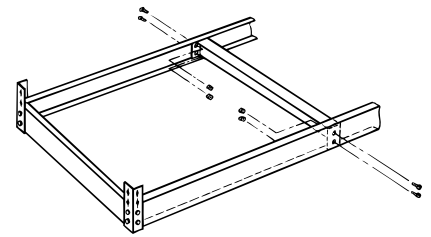

FIGURE 4
Support ties are used with the bottom and top level left-to-right double rivet angle and channel beams. They are installed from front-to-back as shown in *Figure 4*. Beams under 96" use (1) support tie in the middle of the beam while 96" beams use (2) support ties dividing the beam into thirds.
All units must have double rivet beams, left-to-right and front-to-back, installed at every level. If optional support ties are required, add to each intermediate level as shown in *Figure 4*.